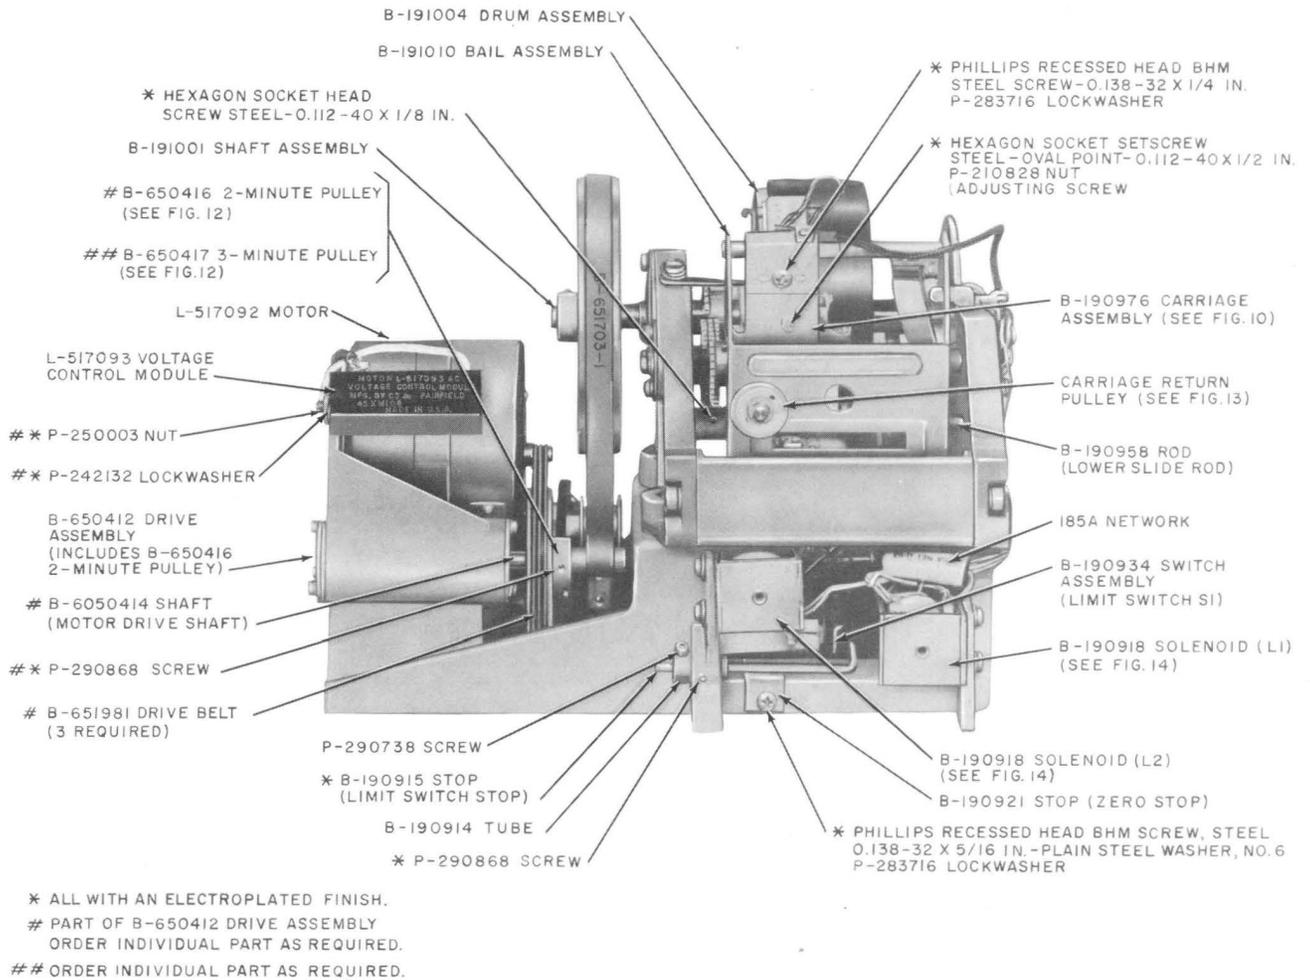

Fig. 2—KS-16765 L3 Recorder Equipped With L-517092 Motor and L-517093 Voltage Control Module
- (c) To add a new Fig. 2 and renumber the remaining figures